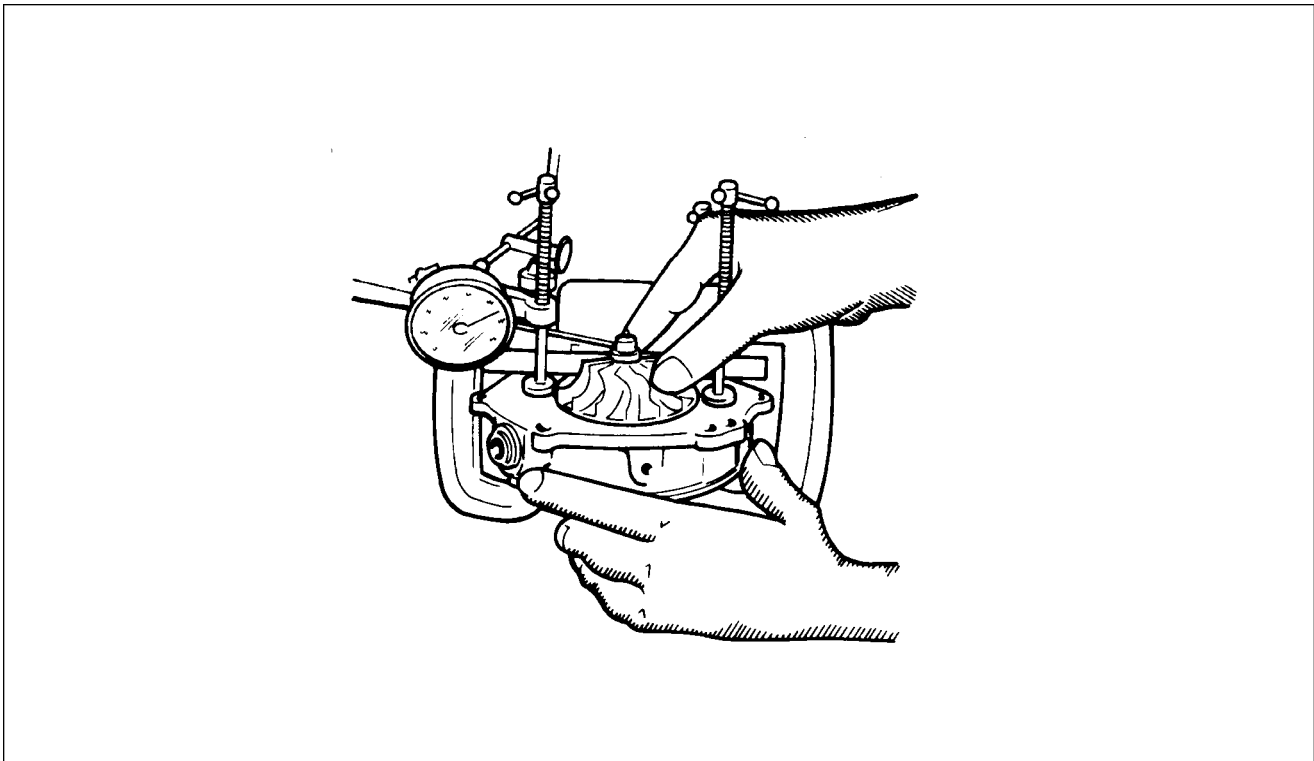

Figure 81-3. Measuring Turbine Shaft Radial Play
9. Reposition the dial indicator so that the contact point is resting on the flat side surface of the impeller nut as shown in figure 81-3 and adjust the indicator dial at zero. Push from side to side as shown in figure 81-3 to determine the radial play of the shaft. Rotate the shaft slightly to get minimum readings on the nut flat. Maximum allowable radial play is 0.022 inch. If radial play is excessive, parts are worn and the turbocharger must be rebuilt.